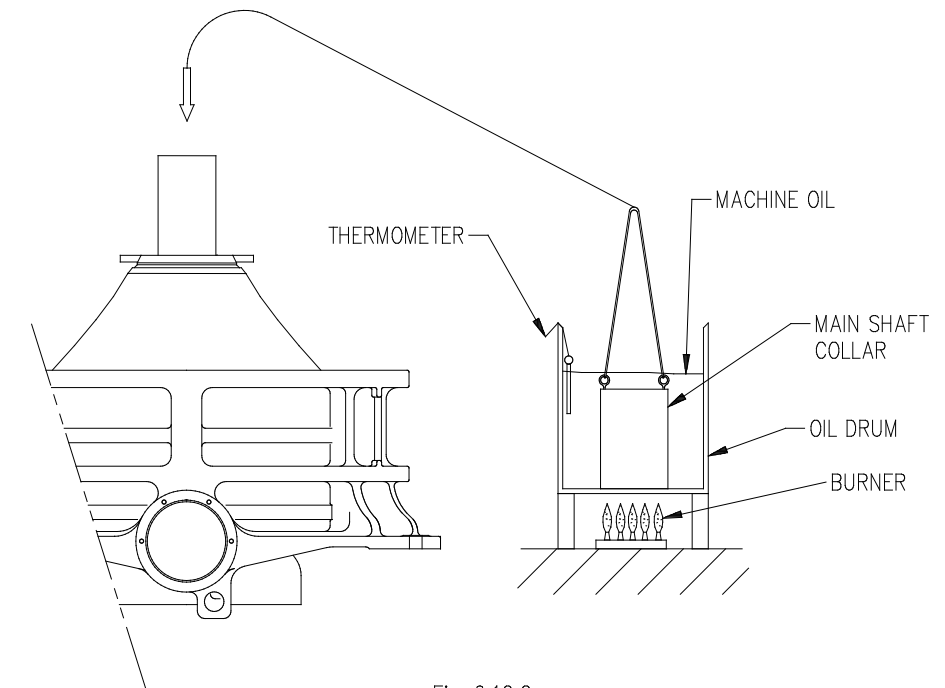

Fig. 6.12.2
3. Put the new main shaft collar in the oil drum filled with heating oil and heat it. (Fig. 6.12.2)